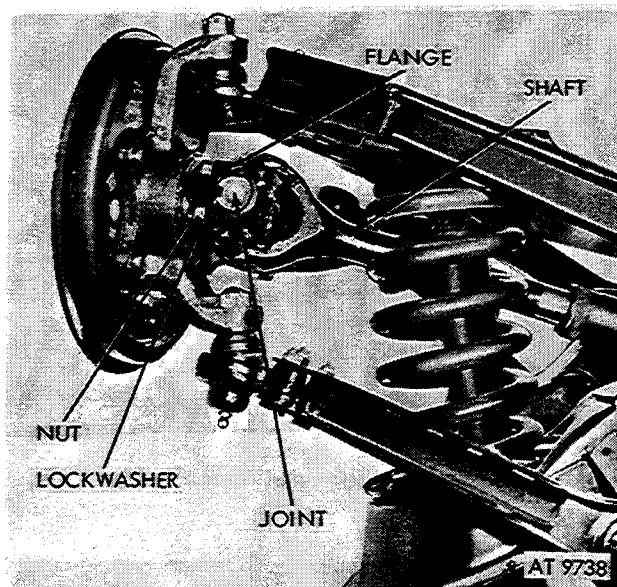

Figure 2-312. Disconnect universal joint at drive flange.
(1) Remove wheel spindle (para 2-138).
(2) Remove four nuts and lockwashers and disconnect universal joint at drive flange (fig. 2-312).